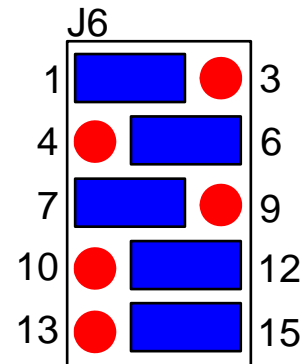

Figure 3. Default J6 Setup for 16-Pin Modem Chips
1. Set jumpers according to Figure 1, but change J6 to the arrangement shown in Figure 3 if an FS ISOmodem package is used.
1. Set jumpers according to Figure 3, but change J6 to the arrangement shown in Figure 3 if an FS ISOmodem package is used.